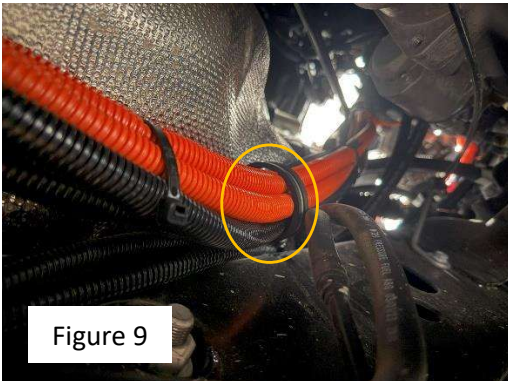

Figure 9
5. Loosen P-clamp and re-do step 3 (Figure 9)